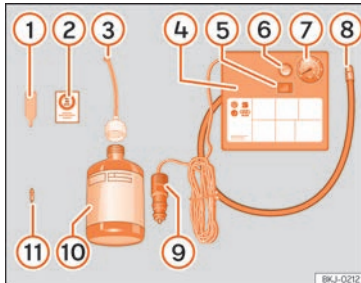

Fig. 65 Standard display: contents of the anti-puncture kit.
- Unscrew the tyre valve cap and insert. Use the »» **Fig. 65 ①** tool to remove the insert. Place it on a clean surface.
- Shake the tyre sealant bottle vigorously »» **Fig. 65 ⑩**.
- Screw the inflator tube »» **Fig. 65 ③** into the sealant bottle. The bottle's seal will break automatically.
- Remove the lid from the filling tube »» **Fig. 65 ③** and screw the open end of the tube into the tyre valve.
- Place the insert back into the tyre valve using the tool »» **Fig. 65 ①**.
- Screw the compressor tyre inflator tube »» **Fig. 65 ⑧** into the tyre valve.
- Check that the air bleed screw is closed »» **Fig. 65 ⑥**.
- Insert the connector »» **Fig. 65 ⑨** into the vehicle's 12-volt socket »»  page 178.
- Turn the air compressor on with the ON/OFF switch »» **Fig. 65 ⑤**.
- Attach the sticker »» Fig. 65 ② to the instrument cluster, within the driver's visual field.